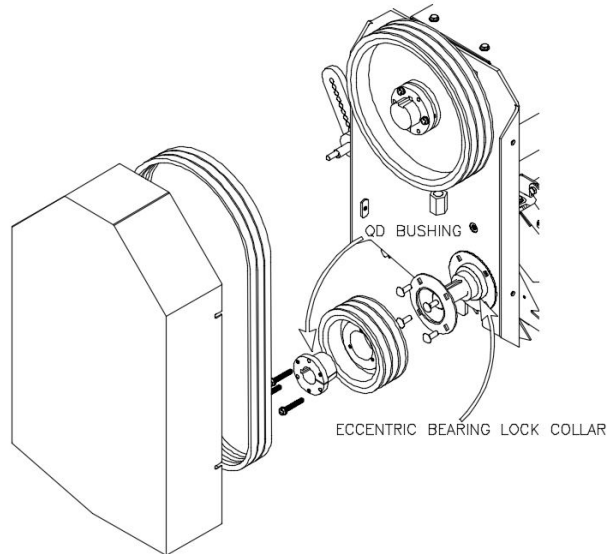

Figure 8. Sheave and Bearing Removal
7. Remove the Eccentric locking collar from Bearing. Loosen set screw; use a punch to rotate the collar in a clockwise rotation until it is free from bearing. See Figure 8
10. Before locking Eccentric Locking collar on bearing to shaft, Refer to Figure 8 & 9 for correct positioning of shaft assembly in the frame. Lock the Eccentric lock collar to the bearing in counterclockwise rotation.